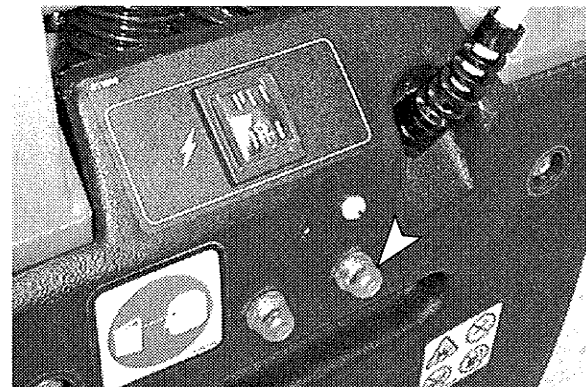

FIG. 7
4. If brush stops, the circuit breaker may have been tripped. Unplug power cord, check brush for obstruction. Push brush reset button to resume (Figure 7).